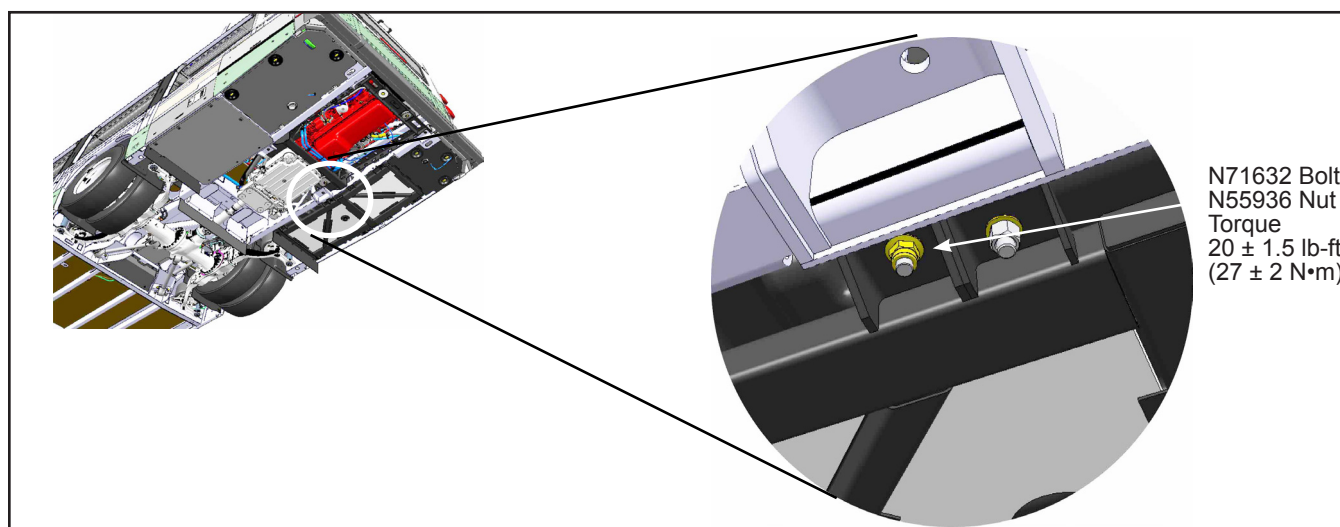

Figure 18 - Carriage Bolt Installation
- 1.31. Install the N71632 bolt with the N55936 nut. Tighten to the torques specified in Figure 18.